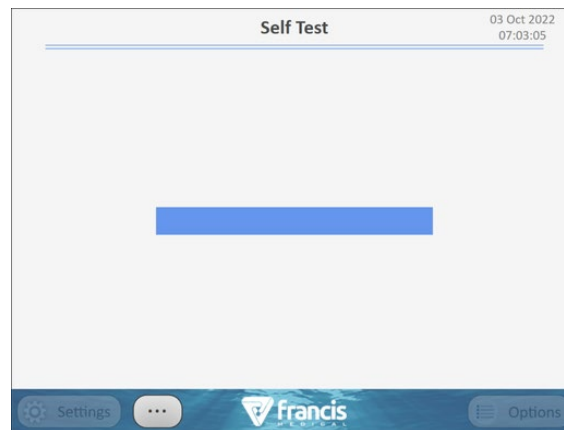

Figure 10-8: Self-Test Screen
- The Generator screen will power on and automatically complete a self-test (**Figure 10-8**)